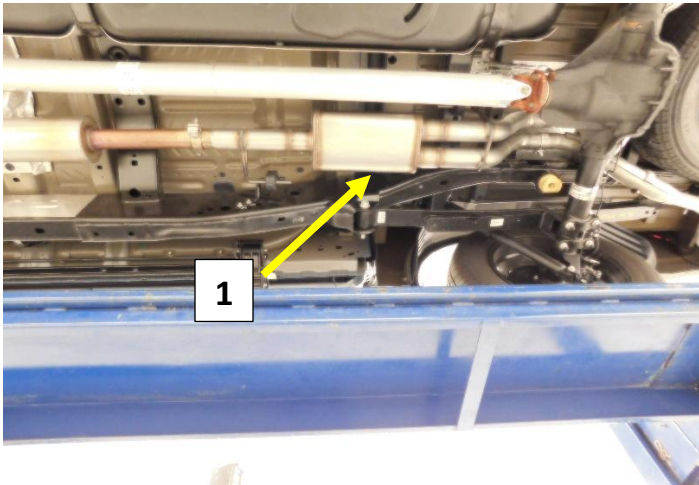

Figure.5
1. Install the Holley muffler assembly (1) into the outlet of the resonator pipe and Support with a jack stand. **Fig.5**
2. Install the hanger rod isolator assembly (B) on to the Front hanger rod (B). Install the two bolts into the frame rail. Level the muffler assembly and tighten the band clamp on the resonator **Fig.**